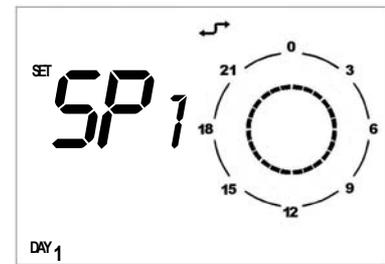

Figure 4 – Daily set points
3. In the lower left-hand corner of the display, SP n will appear where n is the number of daily set points (Figure 4).